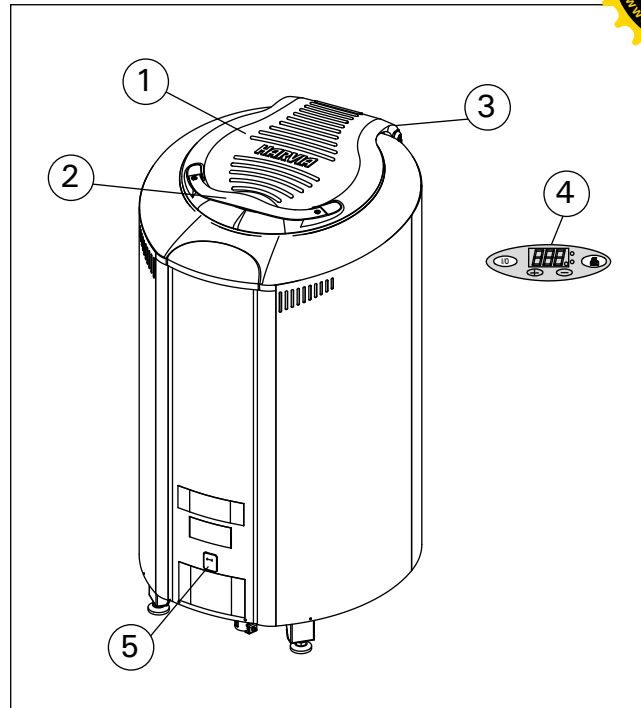
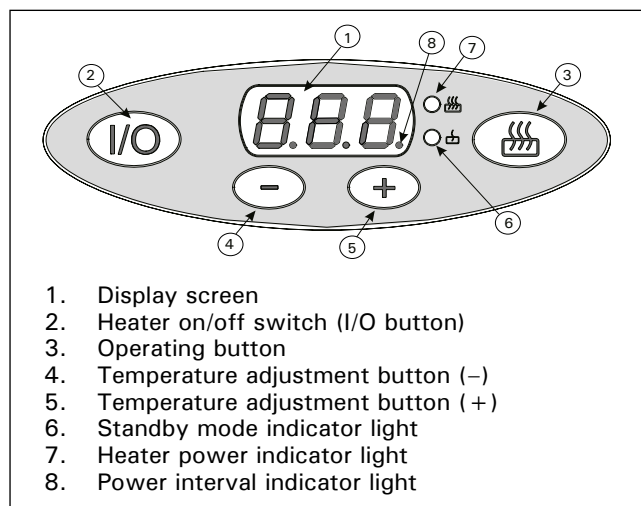

Figure 1. Heater parts
Figure 2. Control panel
2. Handle to safely open and close the cover (fig. 1).
The I/O button is used to switch the heater heating elements on and off. For this to happen, the electric switch must be switched on (see figure 1). The indicator light burns under the I/O button to indicate standby mode.
When the operating button is used to set full heater capacity (HI), the heater temperature is set to 500 °F (260 °C). This temperature cannot be set using the temperature adjustment buttons 4 and 5 (fig. 2). If the heater cover is closed while the heater operates at full capacity, the pre-set temperature of the stone space 500 °F (260 °C) can be achieved more quickly.
The electronics of the heater are switched on and off using the small electric switch with a swing mechanism I in front of the heater (fig. 1). When
When the heater is switched on for the first time after the stones have been put in place, it should be run at full capacity (see chapters 1.5.1. and 1.5.2.) the cover 1 open (fig. 1). The big stone space needs at least two hour-long heating periods at full capacity to ensure that the temperature of the chamber rises high enough. When the heater is switched on for the first time, both the heater and the stones emit odour. To remove this, the sauna room needs to be efficiently ventilated. These actions should also be taken when stones are rearranged or added to the heater.
To switch the heater on, press the I/O button. To indicate that current has been connected to the heating elements, the display shows the message LO (standby power). In addition, indicator light 6 (fig. 2) is lit up. The temperature of the stone space can be set to a maximum of 500 degrees Fahrenheit (260 degrees Celsius) by pressing the + button 5 (fig. 2). The minus button 4 (fig. 2) is used to lower the temperature if it has been set too high.
The electric power consumption of the heater can be monitored using indicator lamp 8 (fig. 2). See the section “Display screen.”
To switch on to full capacity, press the operating button 3 (fig. 2) once. The display screen 1 (fig. 2) indicates that the HI state (= full heater capacity) is in use. In the HI state, the stone space temperature increases towards the set value of 500 °F (260 °C). Full capacity is switched on for only one hour at a time, after which the heater automatically switches to the LO state with indicator light 6 burning (fig 2). After initial heating, the heater cover must be closed. If the stone chamber seems to emit odours, the cover can be left open for a while as the heater operates at full capacity (HI).
When the heater cover 1 (fig. 1) is opened, the air flowing through the hot stones and the heating elements begins to heat up the room. To ensure that the thermal energy stored in standby mode remains in the heater stones despite the cooling effect of air currents and the water thrown on the stones, the heater power should be switched on during bathing using the operating button 3 (fig. 2). “HI” will be displayed on the screen for a while as an indication of the higher power and the indicator lamp 7 glows (fig. 2).
- the standby heat is in the LO position and the indicator light 6 is burning (fig 2).